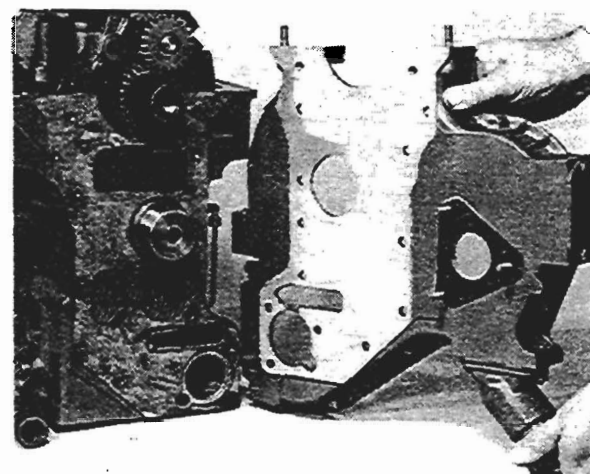

Fig. K10
11. Remove setscrews and washers which fasten timing case to cylinder block and by means of light force, remove timing case from block (see fig. K10).